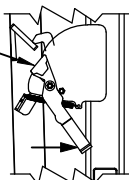

Figure 5: Step 7.
- Step 7. When the platform has traveled high enough to prevent the latch hook from re-engaging, approx. 2 inches, move the latch handle toward the truck with one hand. This will make the latch ramp cover the latch slot (Figure 5).